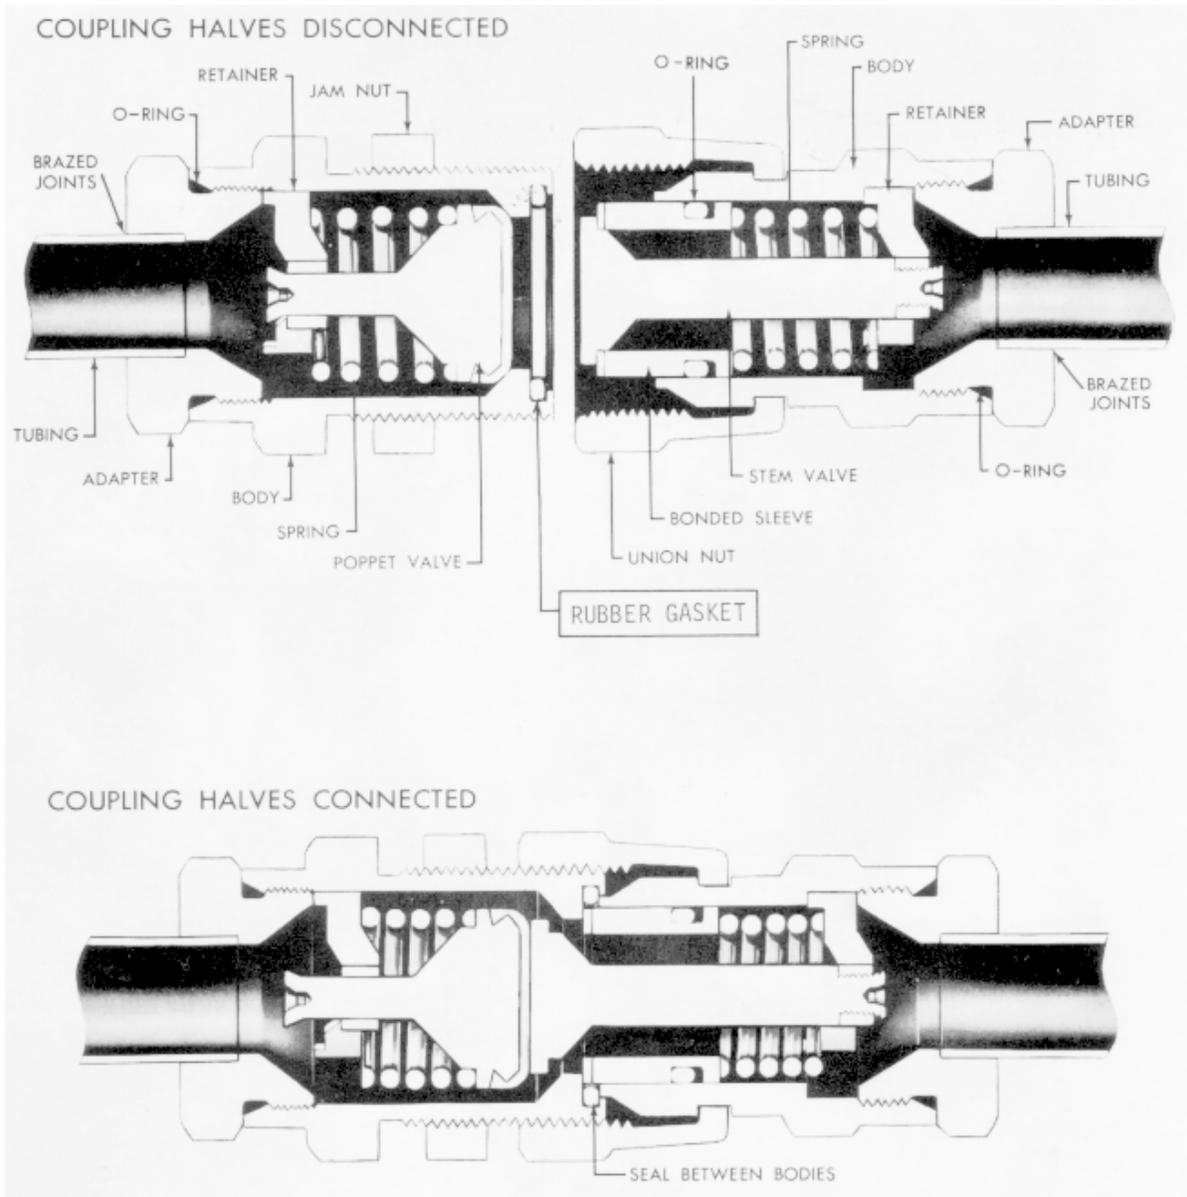

Figure 4: Cutaway Views of a Self-Sealing Coupling (Aeroquip)
1. Ensure that the flat rubber gasket is clean and in place before connecting a self-sealing coupling. (See Figure 4, COUPLING HALVES DISCONNECTED).
3. Make the first turns by hand and then firmly seal the connection using the two wrenches until the fittings "bottom". Refer to Figure 4 for proper coupling of the self-sealing connection.